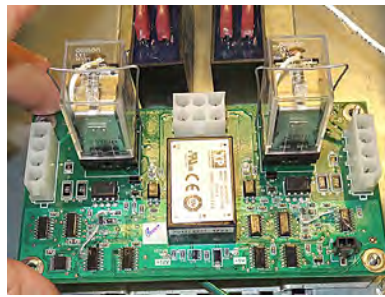

Figure 17
20. Slide the circuit board onto the studs as shown (see Figure 17).